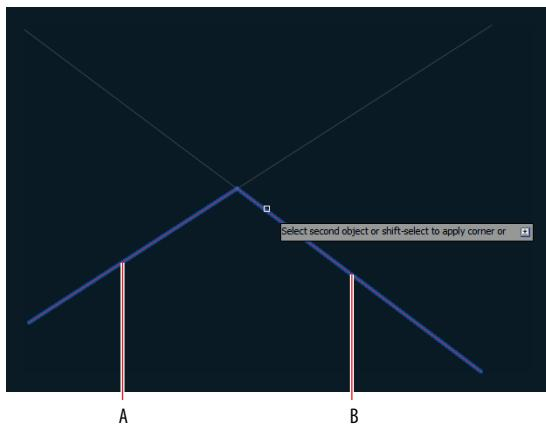

FIGURE 2.28 Filleting lines with a zero radius joins them together precisely.
2. Click the points A and B, as shown in Figure 2.28. The lines are joined at their endpoints, and the remaining portions of the lines beyond their intersection point are trimmed away.